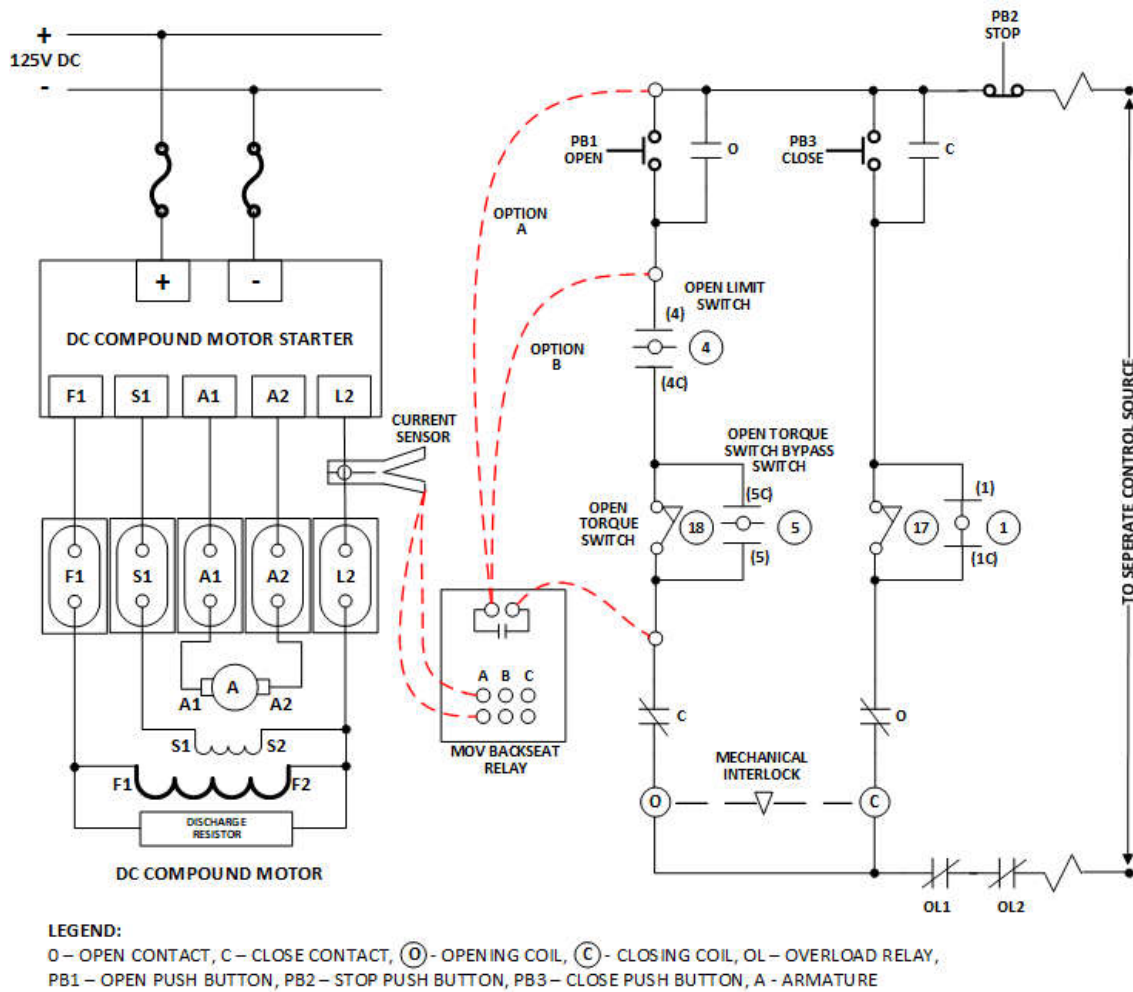

Figure 2: Typical Connection Diagram for DC
- 5.3 Connect test leads from the yellow relay contact jacks to parallel with the limit switches in the motor control cabinet. Typical connection points are shown in Figures 2 and 3. Option A gives full control to the relay. With option B, the relay just bypasses the limit switches.
- Motor Start From – Select the connection option as described in Figure 2. When B-Control Panel is selected, the probe failure detection at the start of run will be disabled.
- FAILED PROBE TRIP will occur if the probe became disconnected during the operate phase or if no current was detected at motor start from this device (Figure 2 or 3 option A).